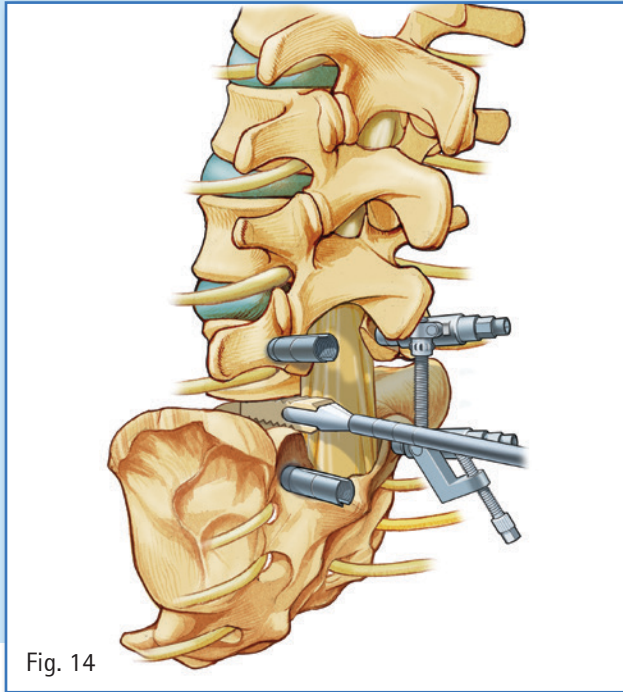

Fig. 14
- Using the t-handles and applying counter torque as described in the tightening procedure on page 7, remove the S⁴ SRI from one side (if required to provide room to work) and perform a routine TLIF or PLIF (Fig. 14) with the Aesculap PROSPACE allograft system as outlined in Aesculap DOC478 (TLIF) or DOC414 (PLIF).